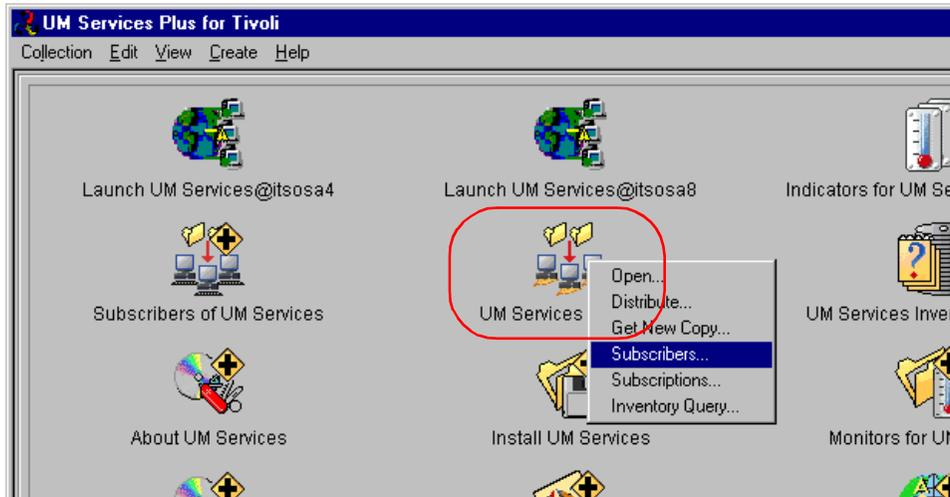

Figure 115. Add subscribers to UM Services Inventory
4. Double-click **UM Services Inventory** from the main window (Figure 115 on page 149).